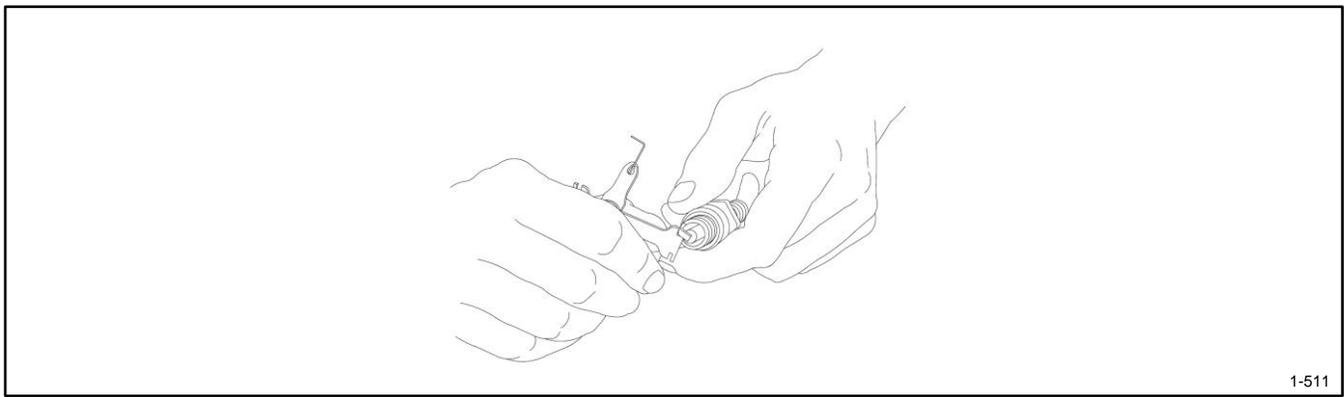

Figure 49 Spark Plug Gap Adjustment
13. Use a gapping tool to gently bend the side electrode closer to or farther from the center electrode to set the correct gap. See Figure 49. Position the side electrode directly over the center electrode.